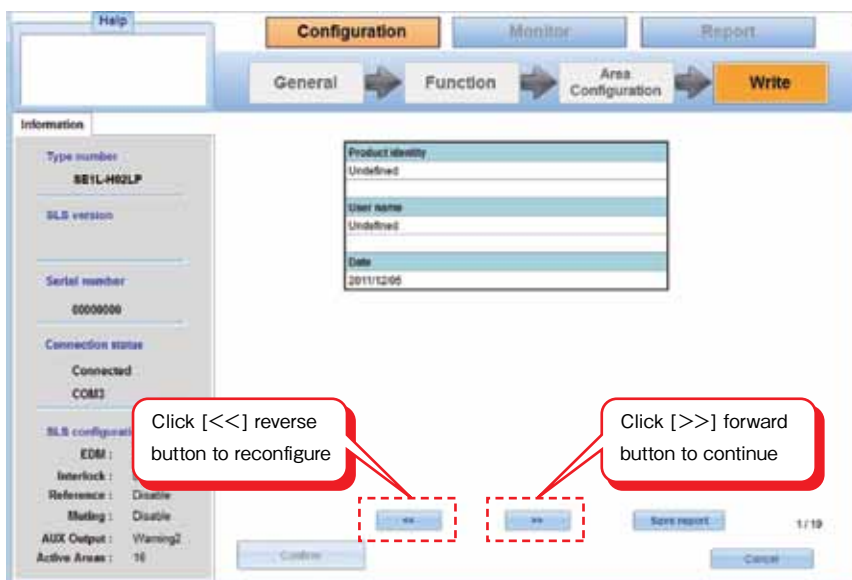

Figure 7-51. Configuration setting confirmation window
- A window (Figure 7-51) displaying the SE1L and user identification is displayed.